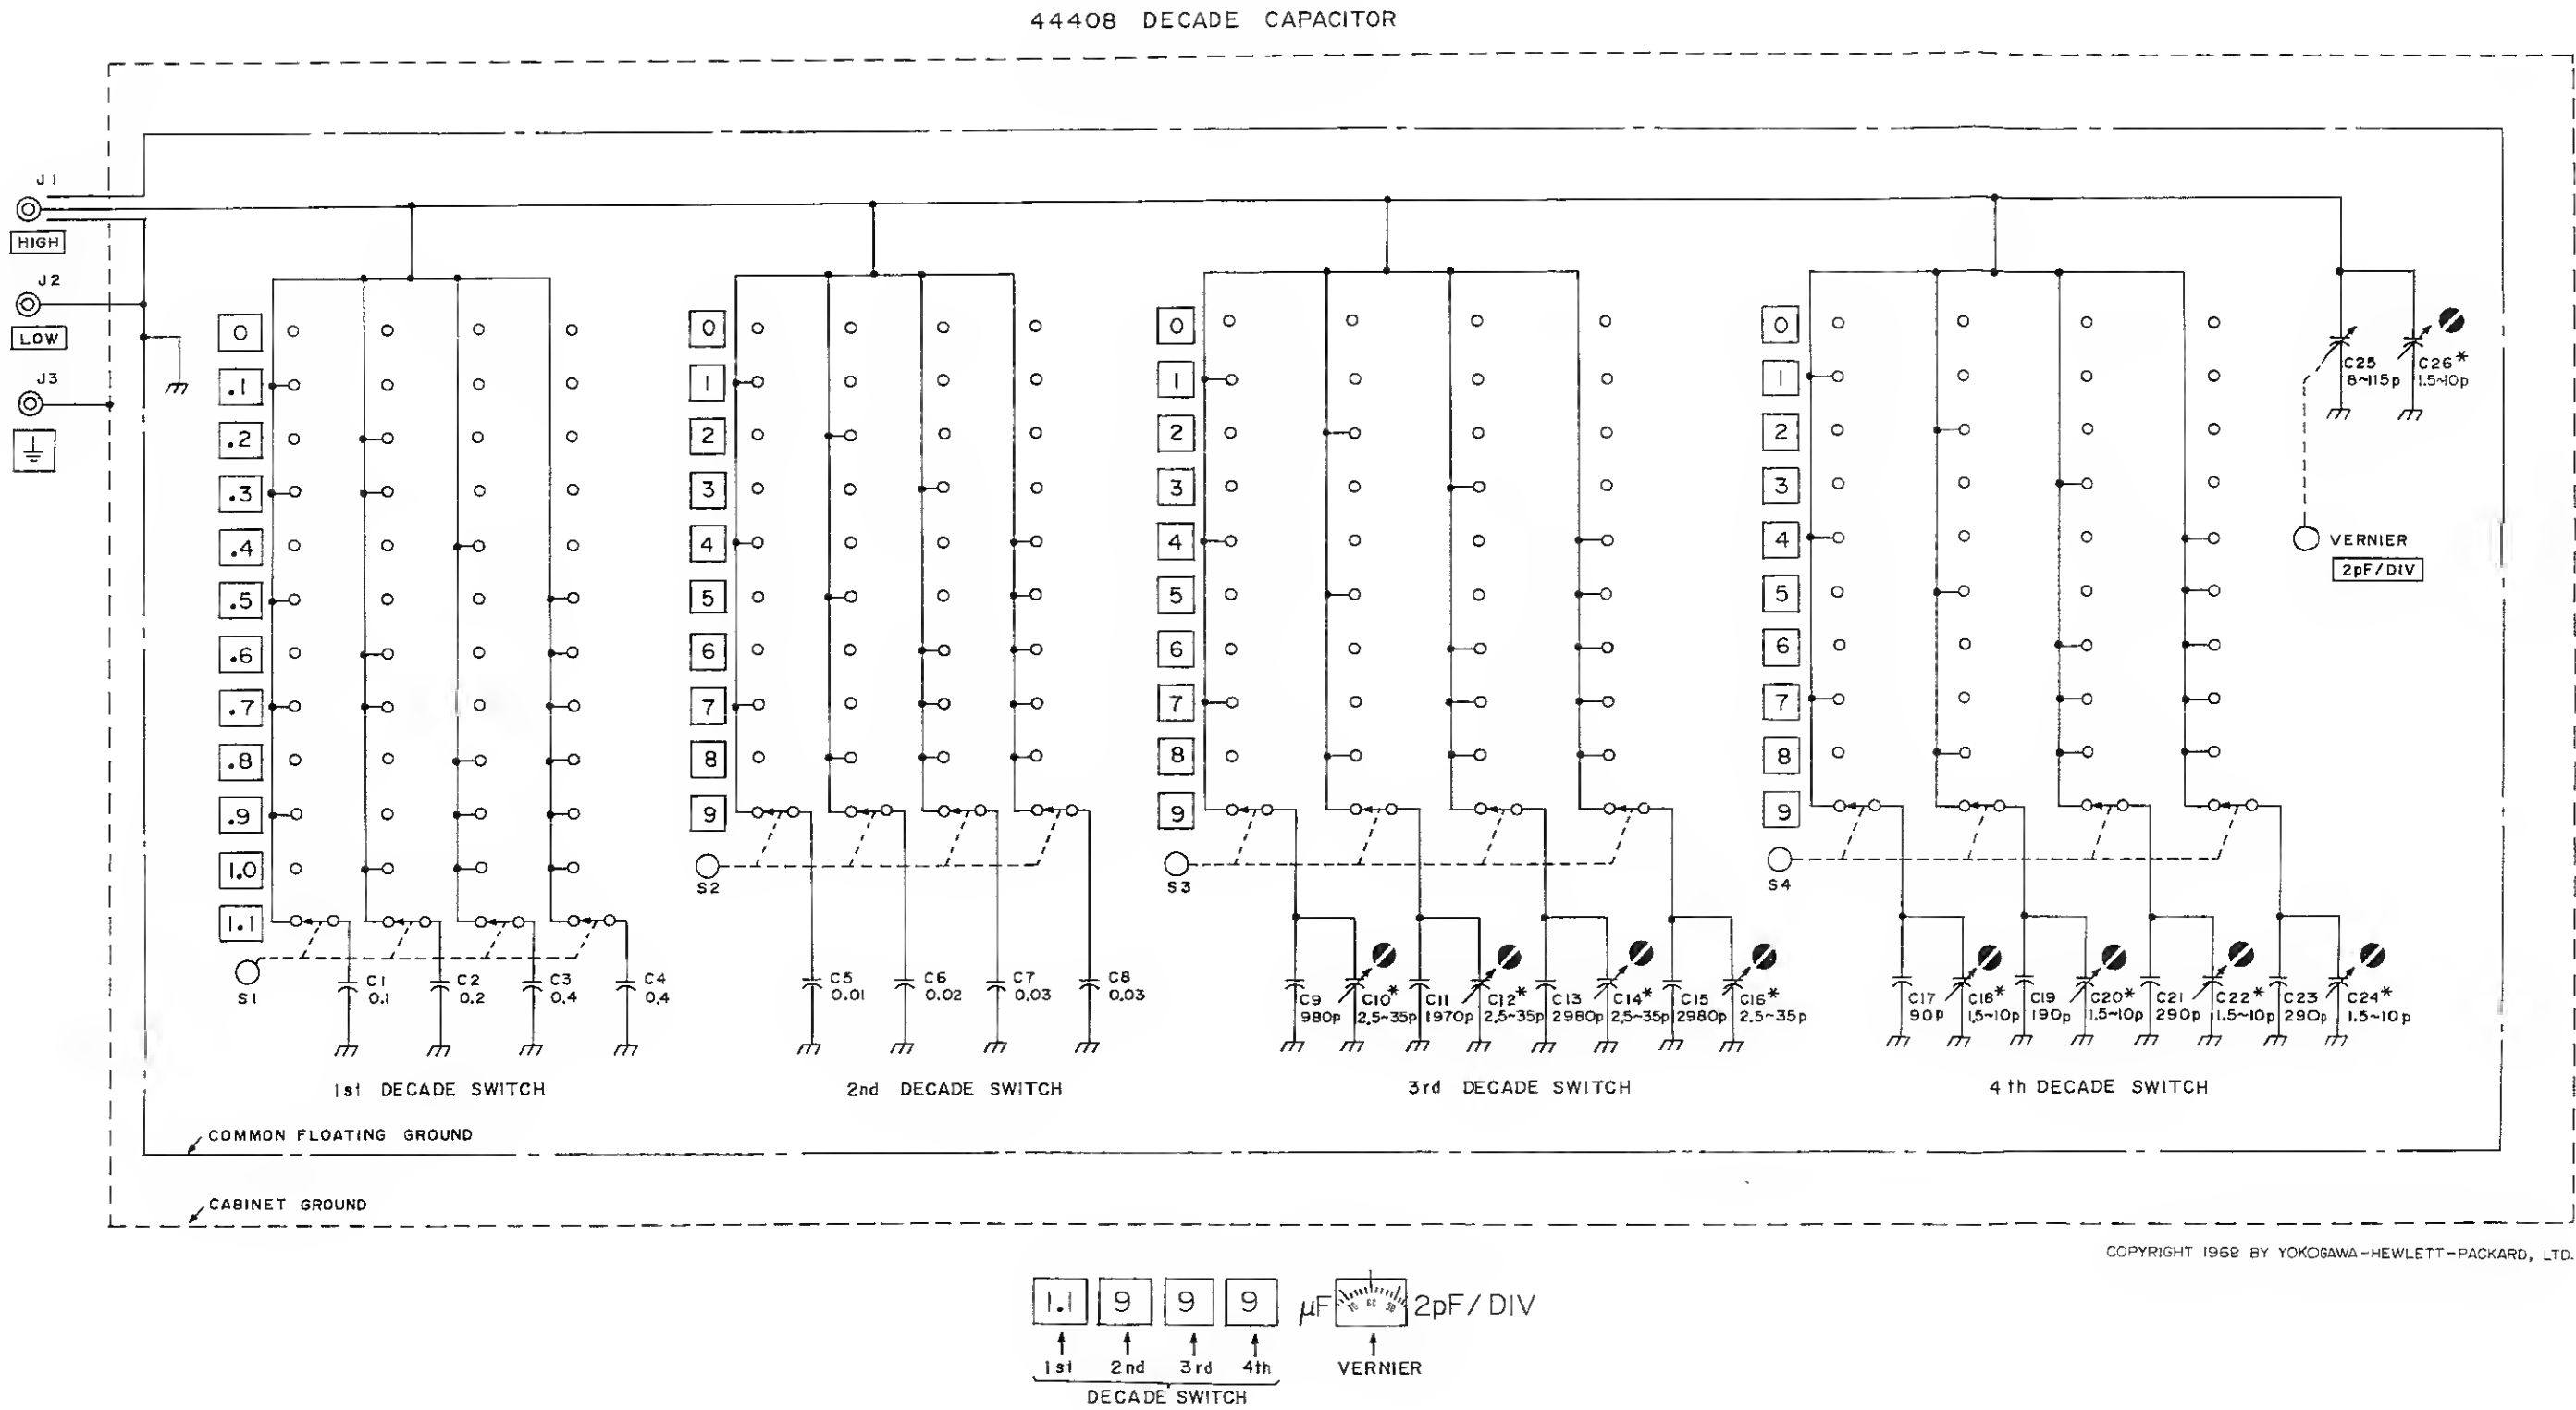

Figure 7-2. Model 4440B Schematic Diagram
Page 7-3, Figure 7-2, Schematic Diagram
- Page 7-3, Figure 7-2, Schematic Diagram